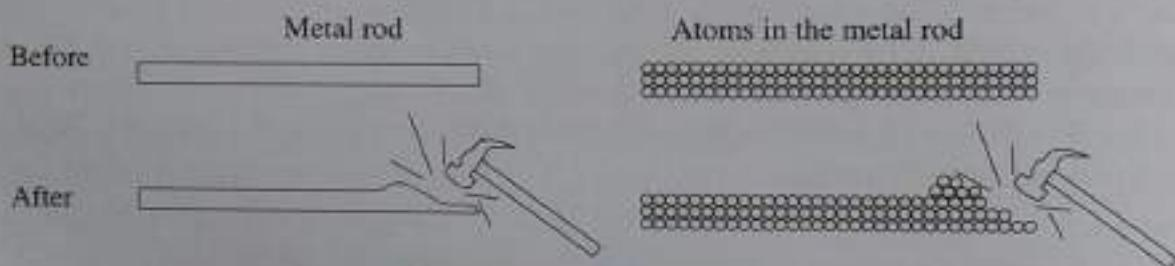

Fig. 3.15: Malleability in metals
- Most metals are also **malleable** i.e. they are capable of being hammered into thin sheets. The hammer exerts strong forces on the layers of atoms in the structure of the metal. Because of this property, metals can be bent and moulded into different shapes. This is illustrated in Fig. 3.15 below.